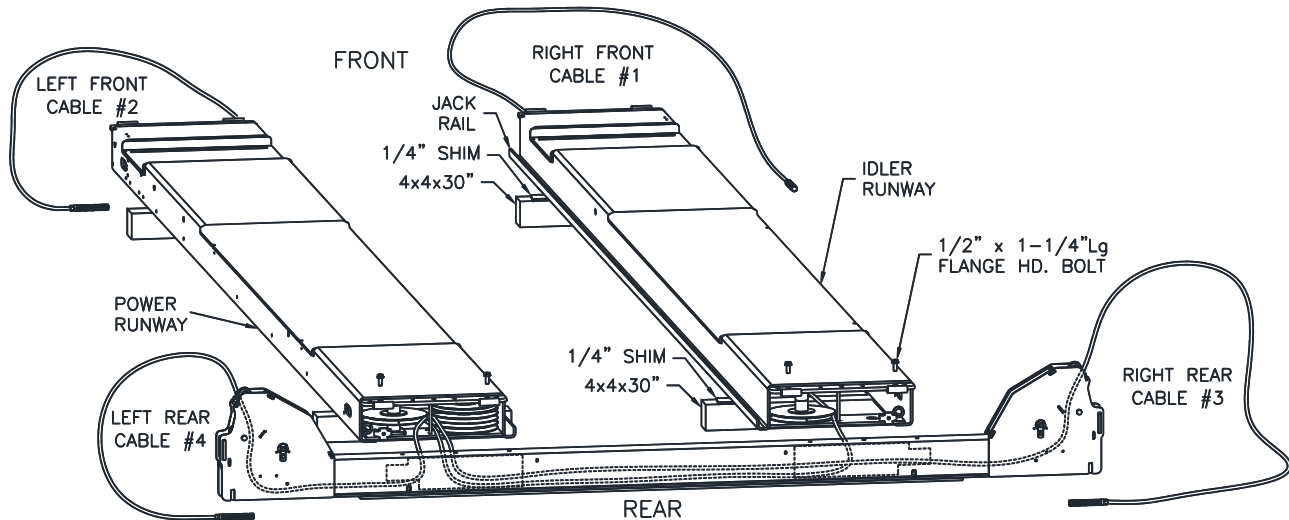
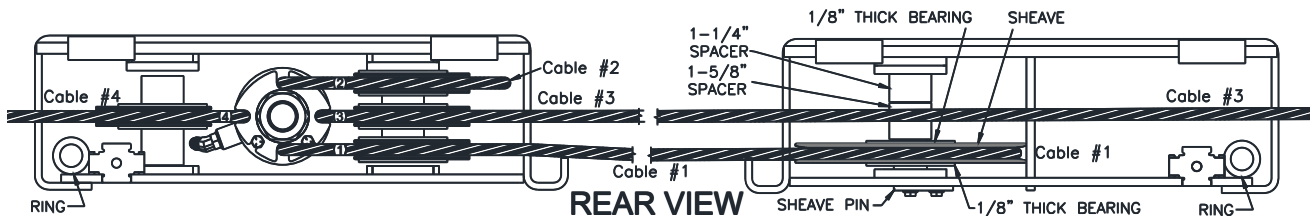
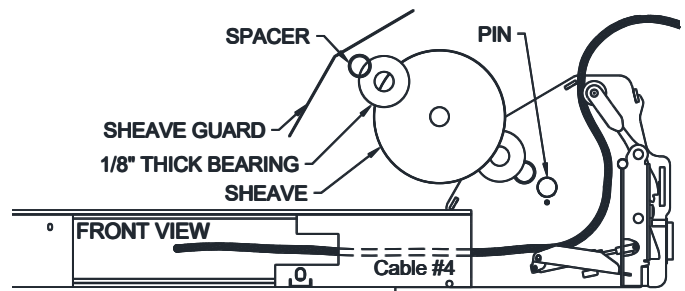
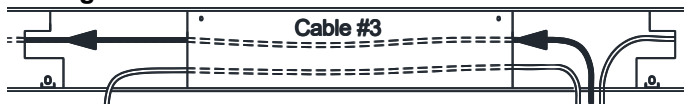

Fig 3 – Runway Layout
Fig 4 – Power Runway 3-Stack & Single Stack
Fig 8 – Cable #4 Routing
Fig 12 – Cable #3 Routing
- Unpack lift. Remove all packaging from Power Runway (power runway has four cable sheaves at rear of the deck). Cut the white cable ties, but leave the black cable ties. Pull the three threaded cable ends out the rear and one threaded cable out the front. **See Fig 3**.
- 3) Position runways on blocking (*see Fig 3*) per layout lines established in **Step 1**. Use four 30" long 4x4's spanning the width of the runway to shim up the runway. **Cable #1, #3, & #4** should be extending out from the rear of the power runway and **Cable #2** from the front of the power runway, **Fig 3**. **Check Cables to make sure each is being retained/routed as shown in Fig 4.**
- 4) Position the rear crossbeam near the end of the runways as in **Fig 5**. Reach in through both of the access holes in the Rear Crossbeam and pull out the roll of 4mm dia. plastic air line. Each air line has already been ran through the chase tube and connected to an air cylinder. Insert the air line into the first Ring of each runway end. See **Fig 4 and 5**.
- 7) Starting from the rear of the lift. Identify **Cable #4** using **Fig 4**. Route **Cable #4** from the left single stack through the access hole and up out the end of the crossbeam as shown in **Fig 8**.
- 8) Starting from the rear of the lift. Identify **Cable #1** using **Fig 4**. Route **Cable #1** through the access hole of the rear crossbeam, and back out the idler side access hole as shown in **Fig 9**.
- 11) Starting from the rear of the lift. Identify **Cable #3** using **Fig 4**. Route **Cable #3** through the access hole and out the end of the crossbeam. **Fig 12 & 13**.
- 12) Double check to make sure **Cable #3** is above **Cable #1** and not crossed. See **Fig 4** and **5**.
- 13) Reinstall the crossbeam sheave for **Cable #3** and **Cable #4**. Slide the sheave pin through the hole, slide one sheave spacer onto the pin followed by one 1/8" plastic bearing washer, and the sheave. Set the cable into the Sheave channel and proceed to adding a 1/8" plastic washer and sheave spacer to the pin. Install the 5/16 x 3/4 bolt to retain the sheave. Reinstall the sheave guards. See **Fig 8 & 13**.
- 14) Remove slack and route each 4mm air line through the first ring in the runway for both sides, see **Fig 4** and **5**. Bring the crossbeam up to the runways being careful to not pinch the air line, cables, and sheaves.
- 32) Route **Cable #1** through the access hole and up and out the end of the Front Crossbeam in the same way **Cable #4** as shown in **Fig 8**
- 34) Reinstall the crossbeam sheave for **Cable #1 and Cable #4**. Slide the sheave pin through the hole, slide one sheave spacer onto the pin followed by one 1/8" plastic bearing washer, and the sheave. Set the cable into the Sheave channel and proceed to adding a 1/8" plastic washer and sheave spacer to the pin. Install the 5/16 x 3/4 bolt to retain the sheave. Reinstall the sheave guards. See **Fig 8 & 13**.
- 45) Reinstall the crossbeam sheave for **Cable #2**. Slide the sheave pin through the hole, slide one sheave spacer onto the pin followed by one 1/8" plastic bearing washer, and the sheave. Set the cable into the Sheave channel and proceed to adding a 1/8" plastic washer and sheave spacer to the pin. Install the 5/16 x 3/4 bolt to retain the pin. Reinstall the sheave guards. See **Fig 8 & 13**.